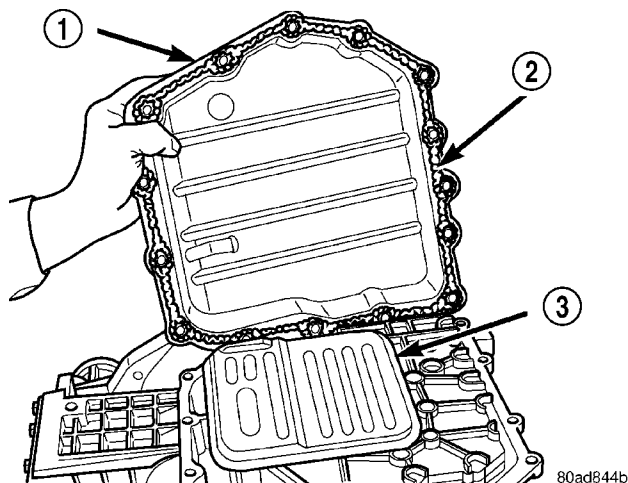

Fig. 156 Install Oil Pan
(66) Apply an 1/8" bead of Mopar® ATF RTV (MS-GF41) to oil pan and immediately install to case (Fig. 156).